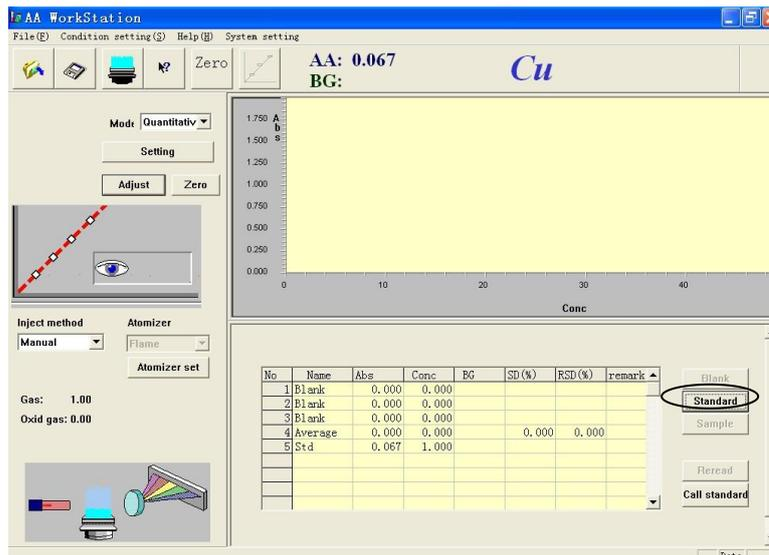

Figure 5-25
- Spray and suck the standard sample blank again. Press "Standard blank", and the screen will be shown as that in Figure 5-25.